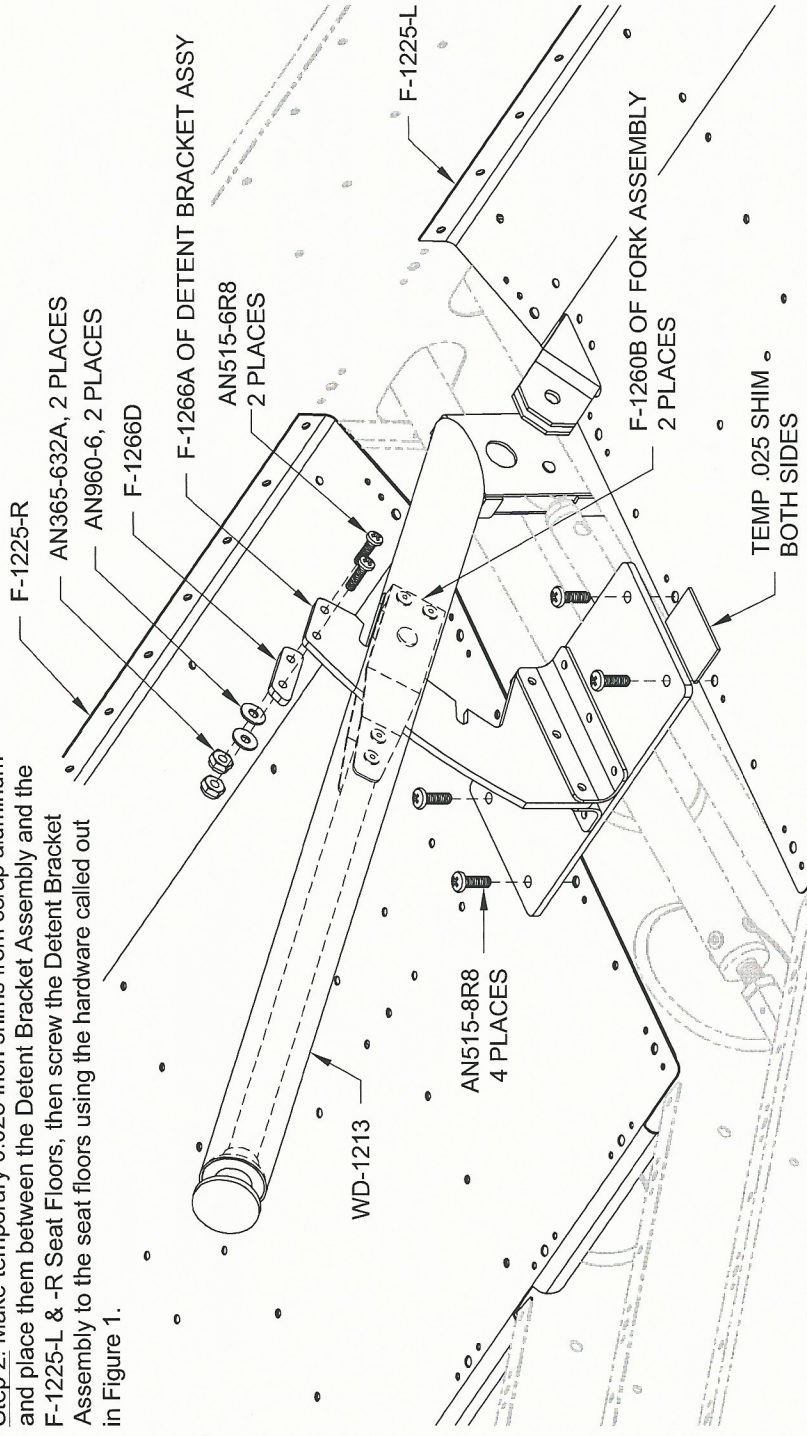

FIGURE 1: INSTALLING THE DETENT BRACKET
Step 2: Make temporary 0.025 inch shims from scrap aluminum and place them between the Detent Bracket Assembly and the F-1225-L & -R Seat Floors, then screw the Detent Bracket Assembly to the seat floors using the hardware called out in Figure 1.
Step 5: Attach the F-1266D Stop to the F-1266A Flap Detent Bracket using the hardware shown in Figure 1.